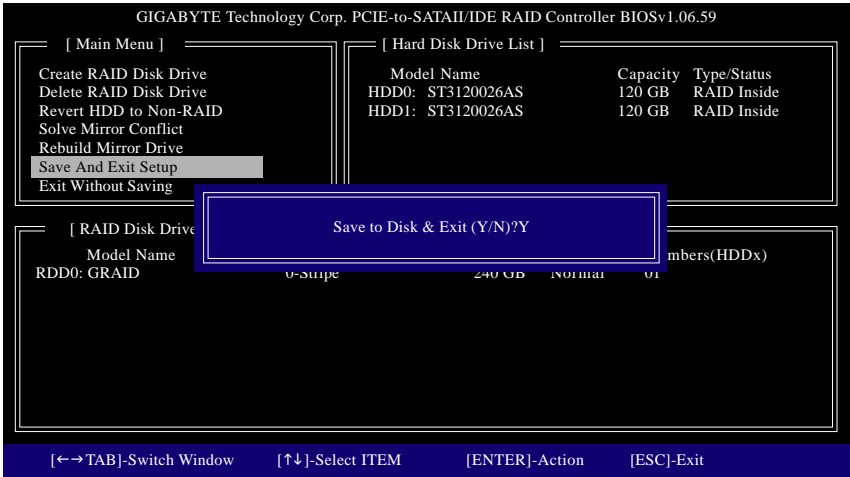

Figure 10
**7. Save and Exit Setup:** After configuring the RAID array, select the **Save And Exit Setup** item in the main screen to save your settings before exiting the RAID BIOS utility, then press <Y> (Figure 10).